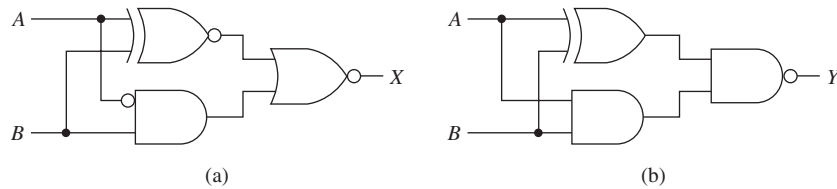

Figure P7
7. Write the Boolean equations for the circuits of Figure P7. Reduce the equations to their simplest form.